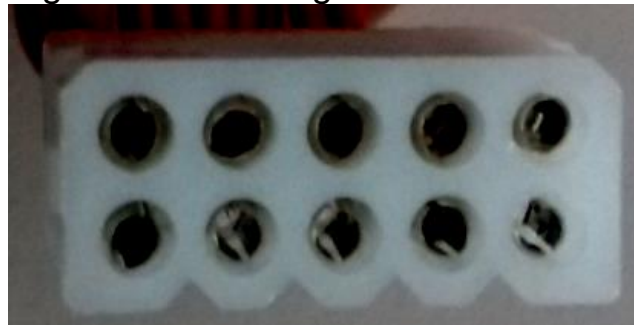

Fig.5
5. Reverse the assembled housing and carry out the visual inspection for Terminal position and seating as shown in Fig. 5.